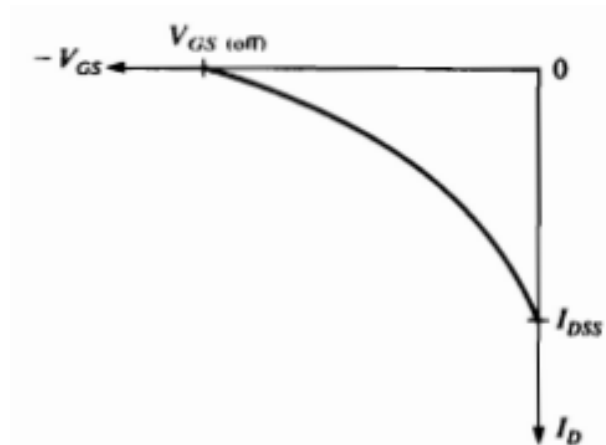

Figure 12-4
4. Using Figure 12-4 as a guide, estimate from the oscilloscope's display both I_{DSS} and $V_{GS(off)}$, for the MPF102 JFET you are using. Record these values in Table 12-1.